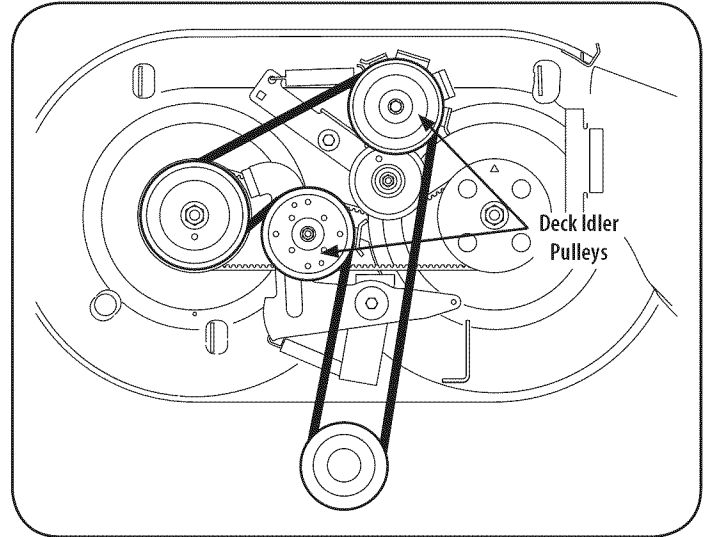

Figure 33
4. Loosen, but not remove, the nut and bolt which secures each deck idler pulley. See Figure 33.
6. Route the new belt as illustrated in Figure 33.